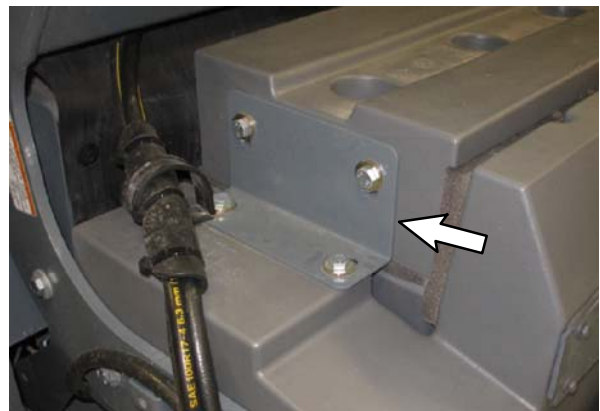

FIG. 10
16. Remove the right filter mounting bracket from the machine. Set the hardware aside. Discard the filter mounting bracket. (Fig. 10)
17. Use the saved hardware to install the right filter mounting bracket (64) onto the machine where the removed right filter mounting bracket was located. (Fig. 10)